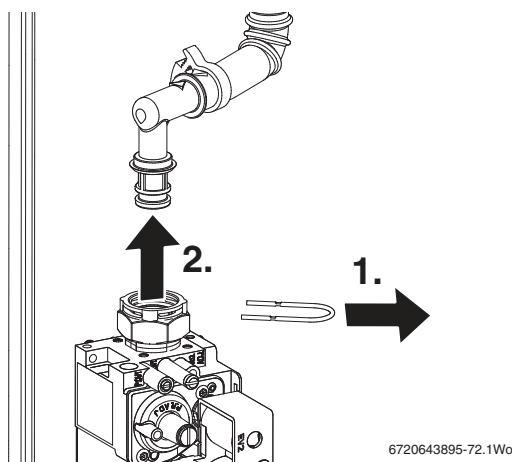

Fig. 96 Gas valve upper connection
Refer to figure 96
- ▶ Remove wire clip from gas valve outlet then pull gas pipe free from the gas valve (see figure 96).